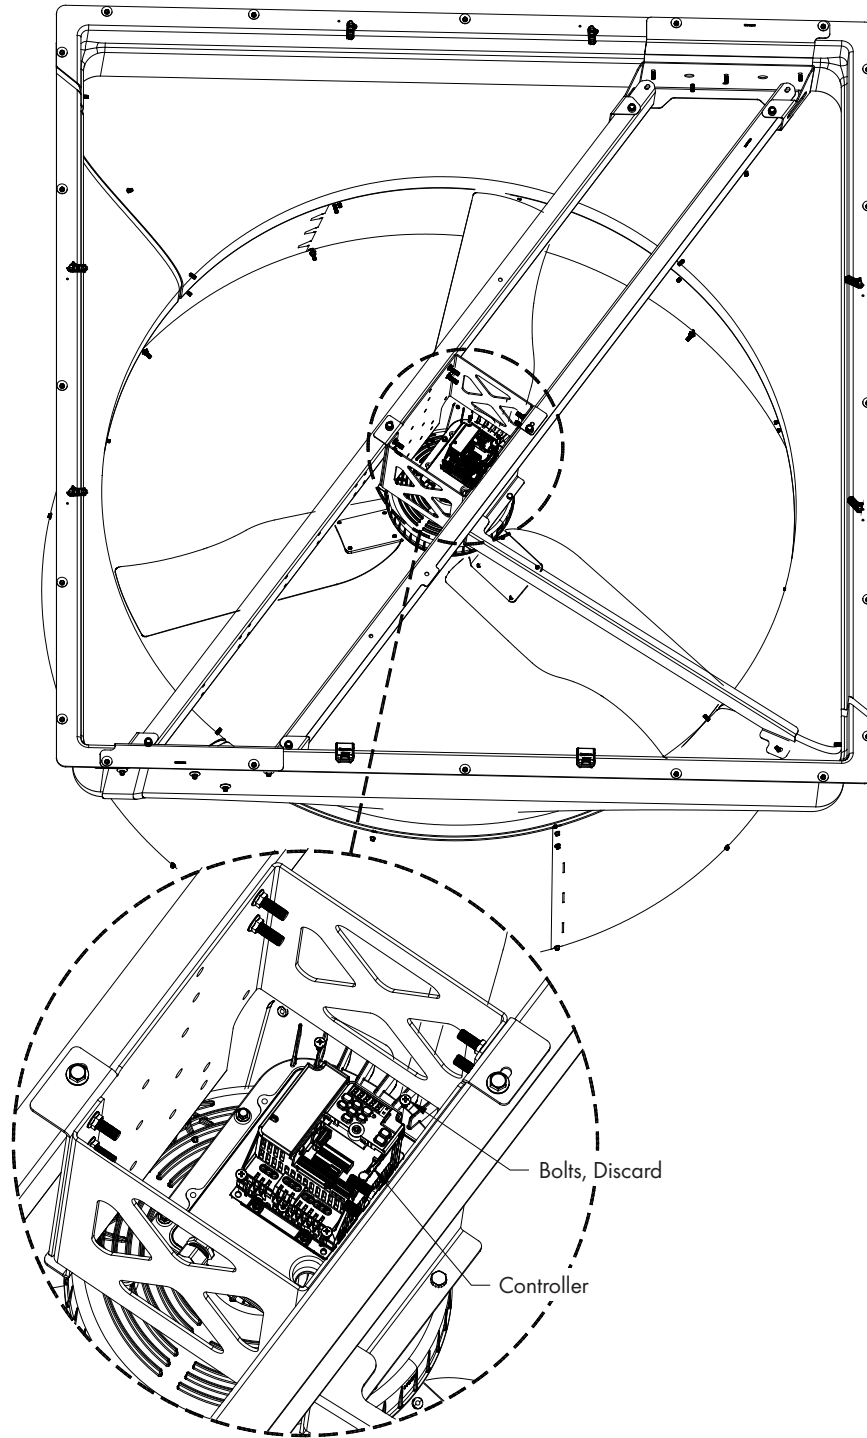

Figure 4
Remove the (4) Bolts holding the Controller to the heat sink. Discard the existing bolts. See Figure 4.